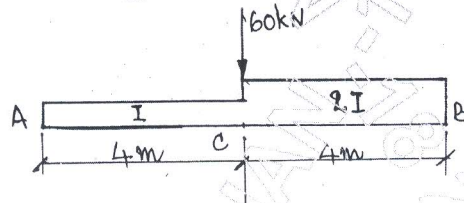

Fig.Q5(b) (08 Marks)
- b. Determine the deflection under the given 60 kN load acting on the beam as shown in Fig.Q5(b) by strain energy method.